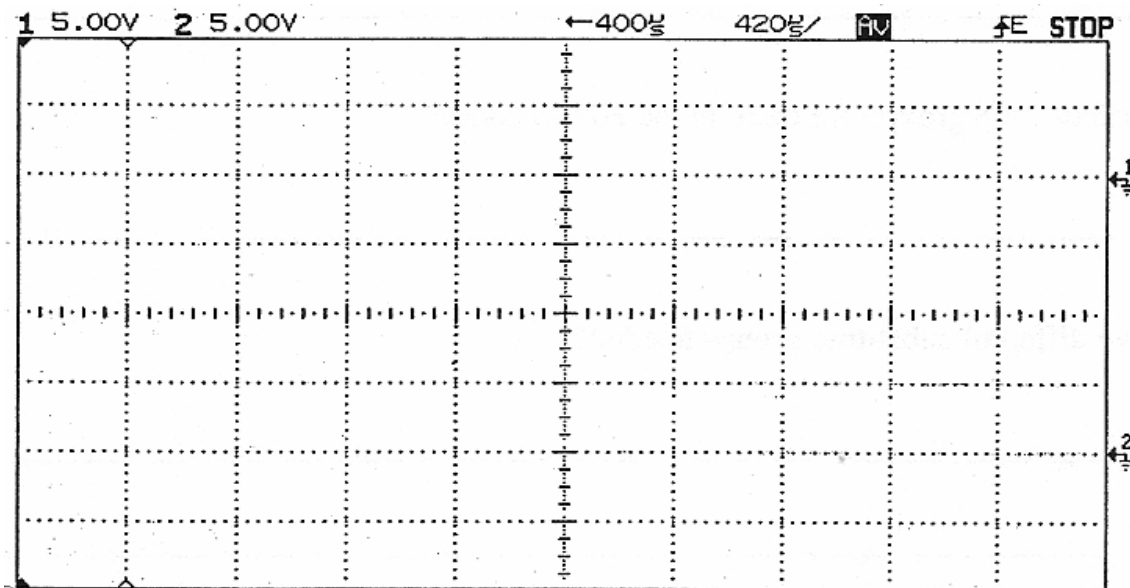

Figure: 6-3w Above: coder input signal (delayed by 3 clock pulses)
- Now set the bit pattern 10000011 and make a sketch of the oscillograph in Figure 6-3w.